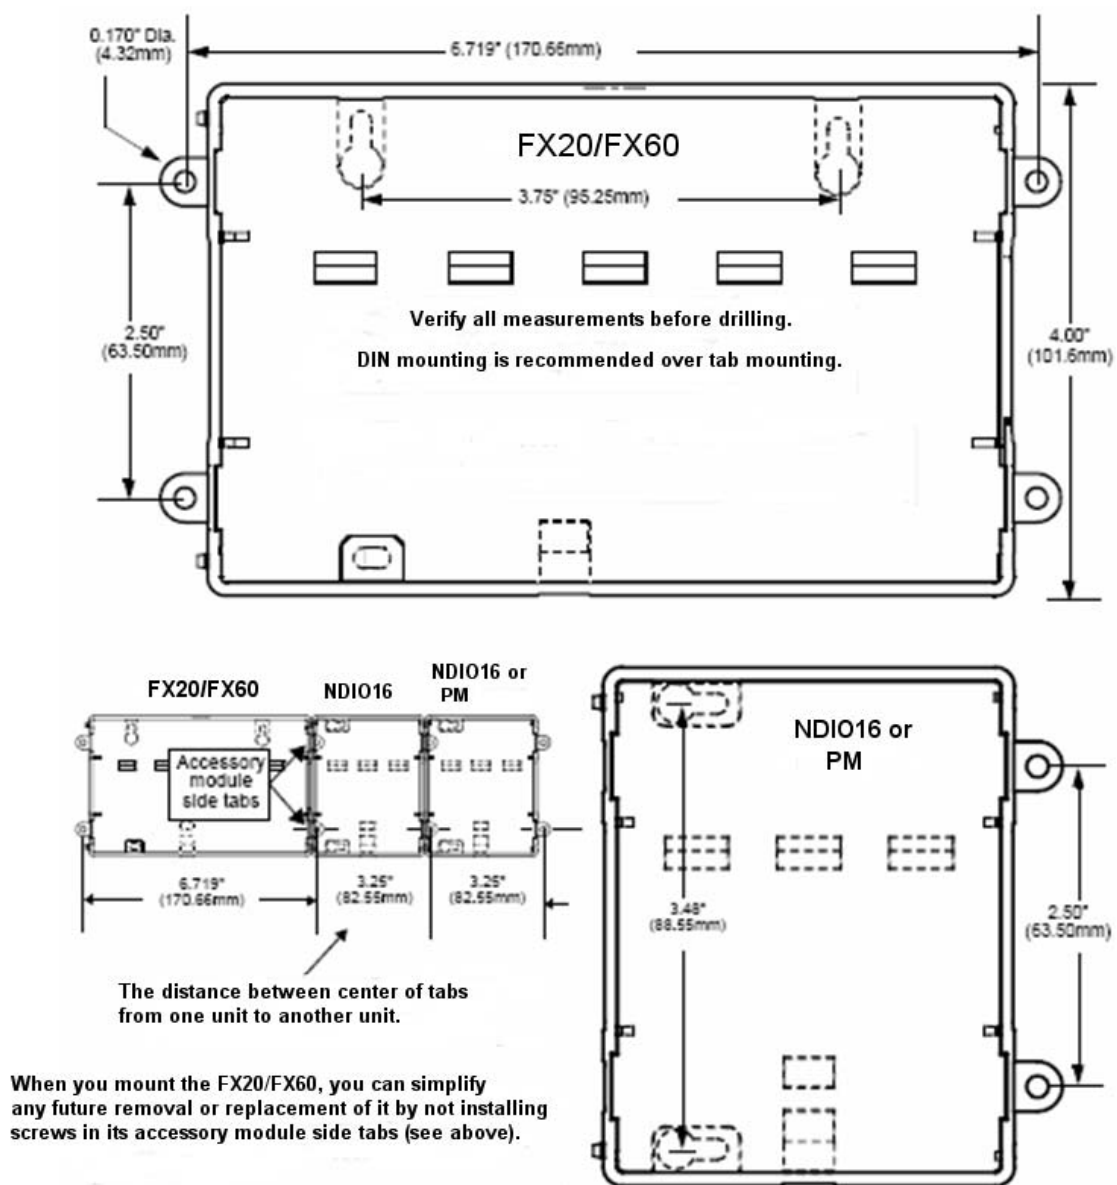

Figure 2: Tab Mounting Dimensions
- If DIN rail mounting is impractical, use screws in mounting tabs on the FX20/FX60, the NDIO16s, and any other optional module (for example, a power module). See Figure 2 for tab dimensions.